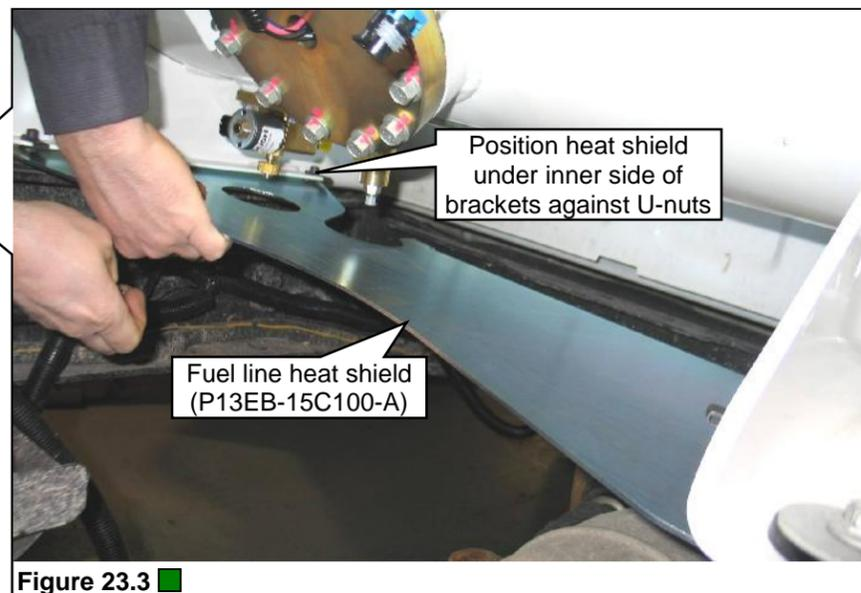

Figure 23.3 ■
- Position the heat shield under the inner flange of the tank mounting brackets against the M8 U-nuts. Install the four M8 mm bolts to secure the heat shield to the tank mounting brackets. **Figure 23.3.**